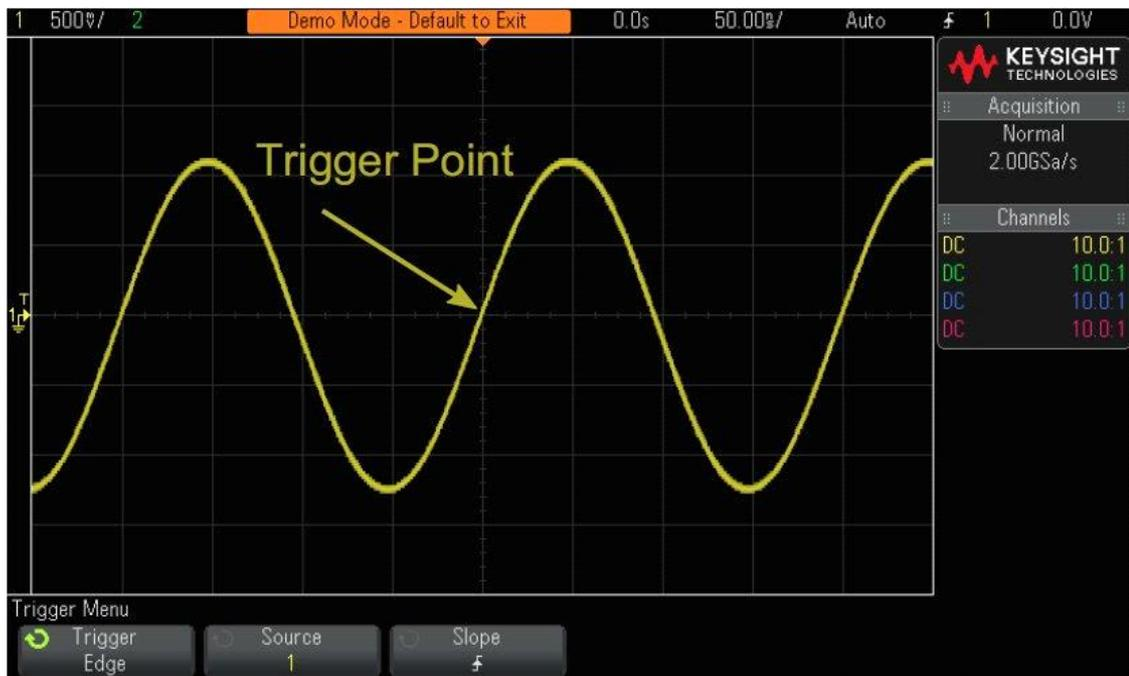

Figure 1-4-9
3. Your scope's display should now look similar to Figure 1-4-9.